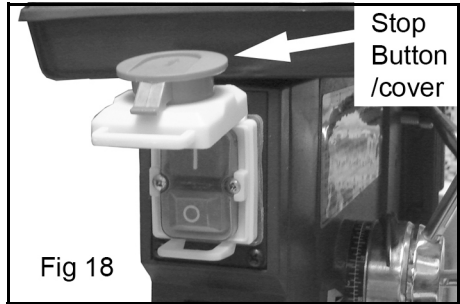

Fig 18
8. When completely satisfied that the setup is correct, lower the chuck guard into position and switch the drill press on by pushing the 'I' button. To switch off, push the 'O' button, see Fig 18.